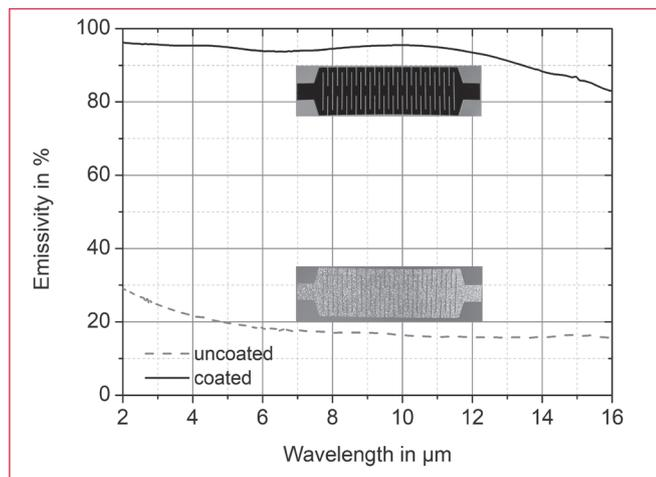

Fig. 2: Coating of the emitting filament to increase black body emissivity, patented by Infrasilid GmbH - used on **both sides** of the filament
1. The patented coating technology increases the emissivity on both sides of the filament (Fig. 2)